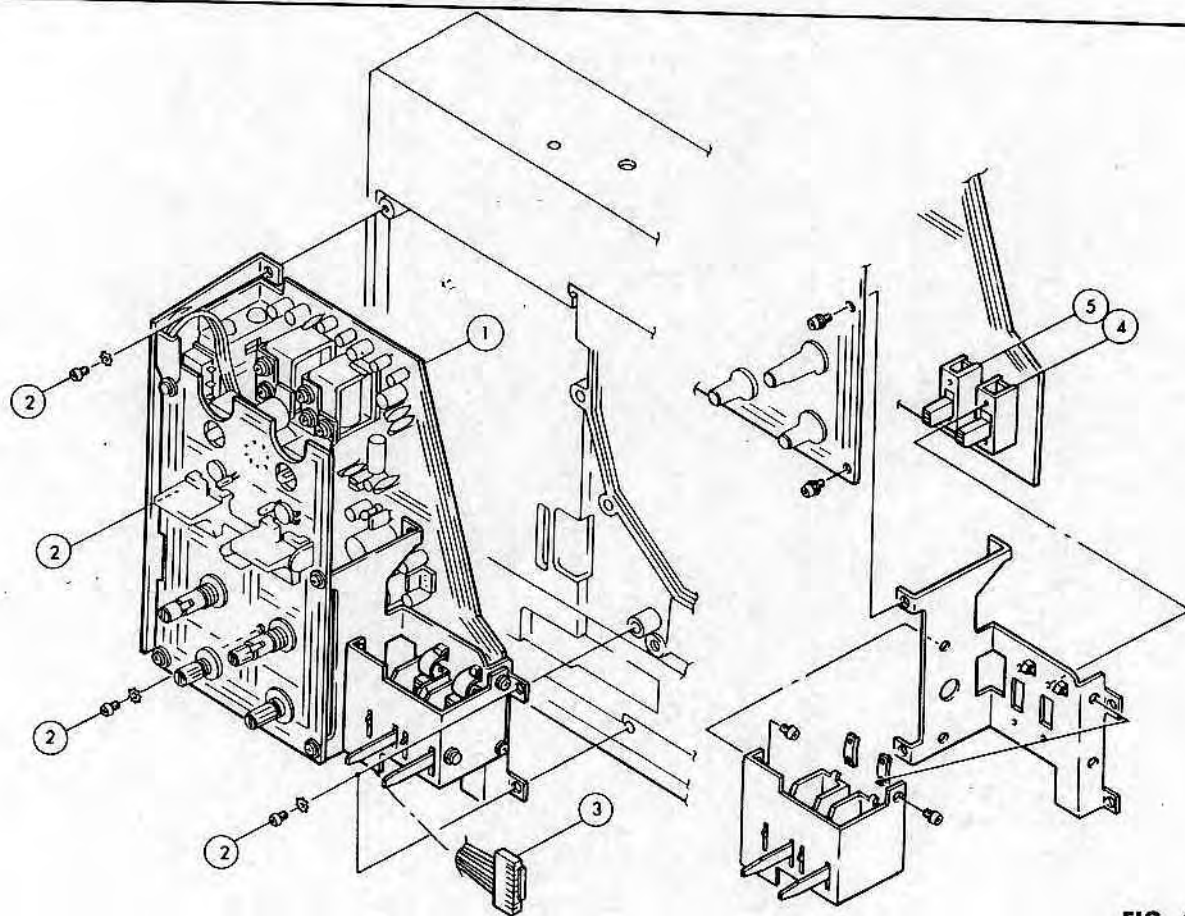

FIG. 45
**TROUBLESHOOTING:** (Refer to Fig. 45)
1. Unscrew the (2)x4 and pull out the (3) after cut a beaded binder. The toothed lock washers are used under the (2).
2. Remove the (1), pulling it toward you. Note that the (1) is connected to the projector with connector.
3. For further disassembly, refer to Fig. 45.